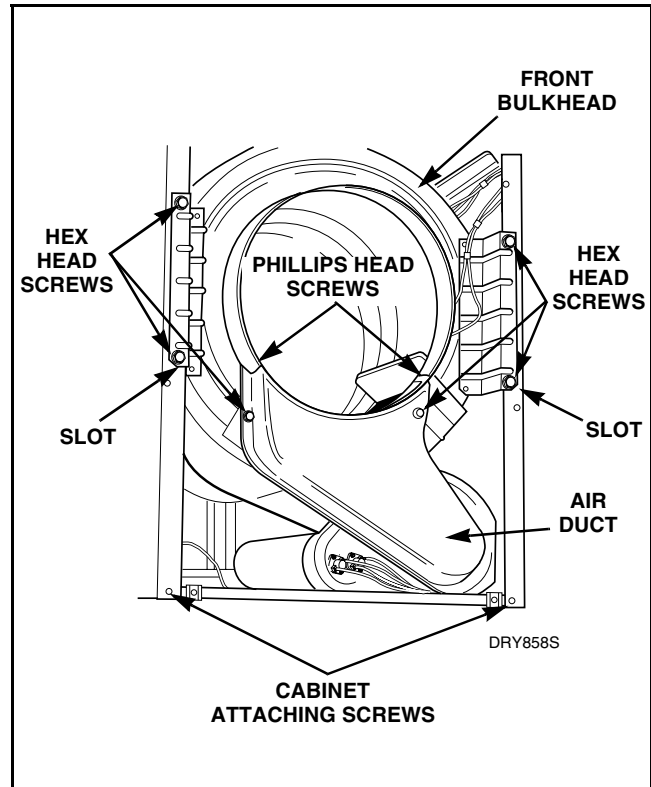

Figure 25
- e. Remove four screws holding duct to front bulkhead and remove air duct. Refer to *Figure 25*.
- Remove screws holding air duct to front bulkhead and remove air duct. Refer to *Figure 25*.